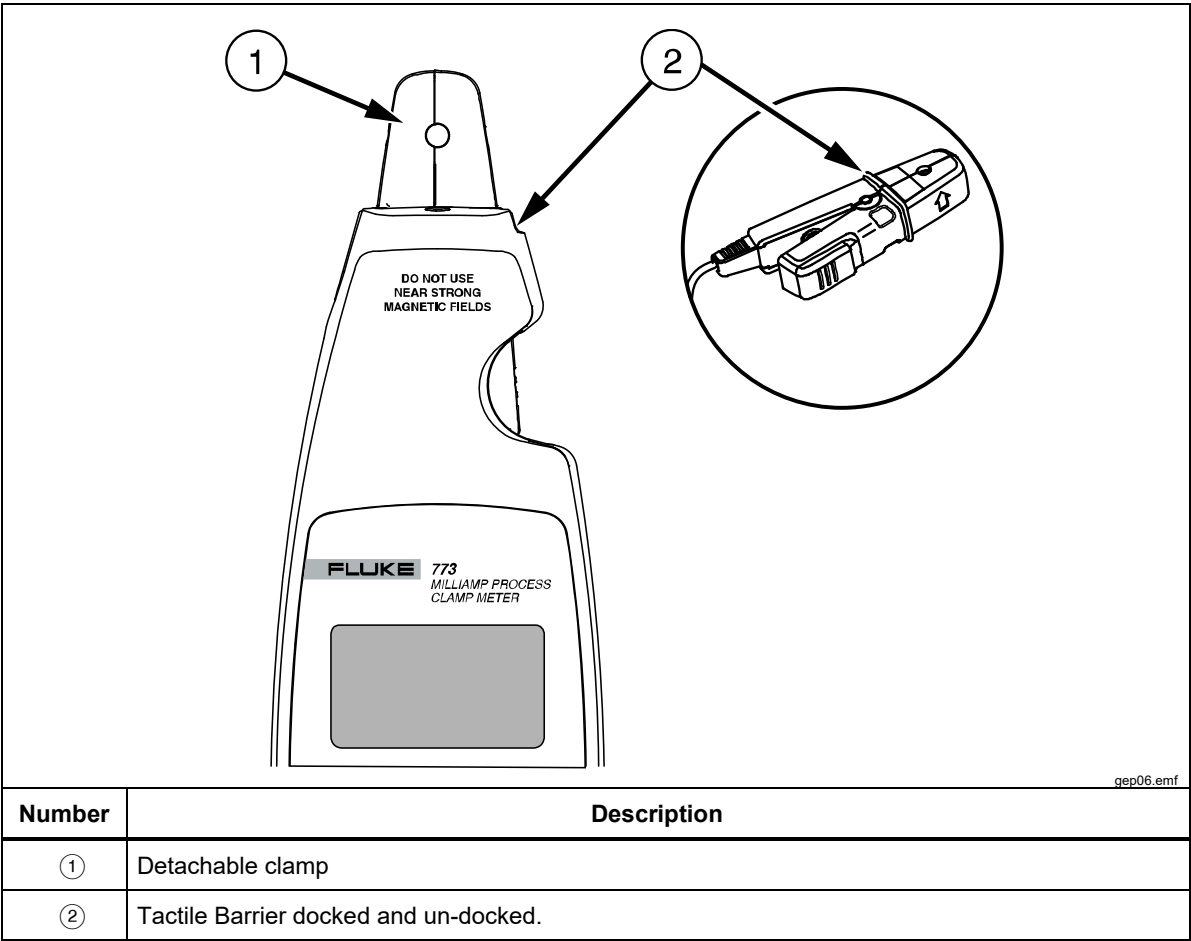

Figure 1. Tactile Barrier
- Hold the Product behind the tactile barrier. See Figure 1.